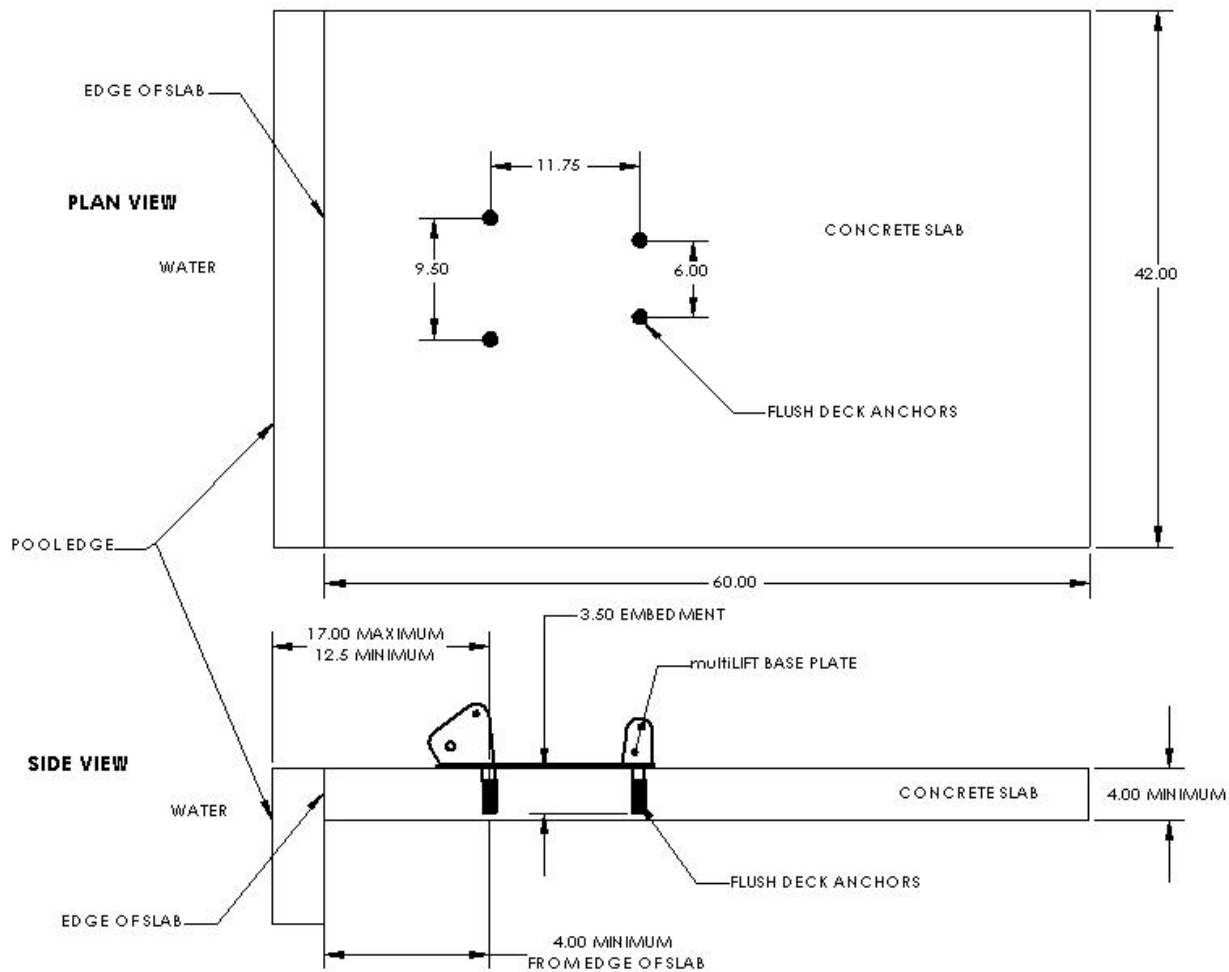

Figure 11. Layout
- Slab dimensions should be at least 42" X 60" X 4", reinforced. See **Figure 11** above.